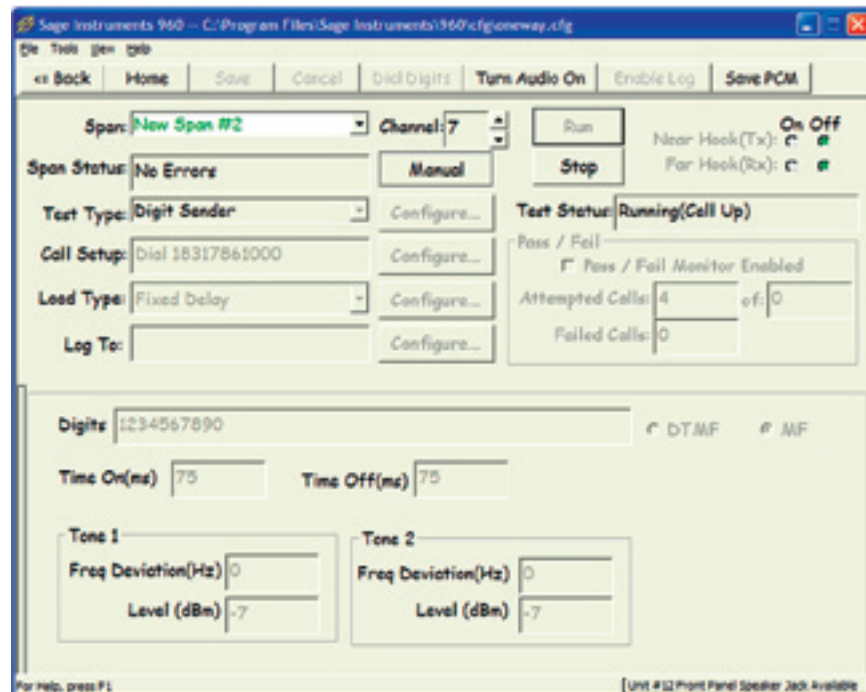

Figure 112
The SAGE 960B Digit Analyzer test utilizes five (5) screens for configuration of the test parameters (see figures 112 through 115).
Sage's Digit Sender Envelope Testing allows a user to send RFC-2833 Digits with settable frequency, level, and On/Off times. Figure 112 shows the main test screen with the "Digit Sender" test selected and saved. When clicked the three (3) "Configure" buttons down the center of the main screen display the test set-up windows below and at right.